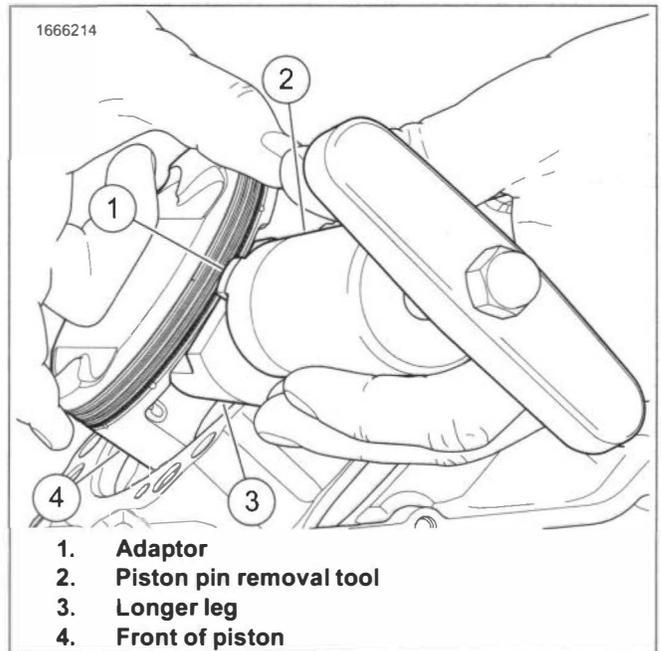

Figure 4-58. Piston Pin Removal Tool Assembled
- b. See Figure 4-58. Insert piston pin removal tool (2) through piston pin.
- c. Align longer leg (3) of adaptor (1) with front of piston (4).
- c. See Figure 4-58. Insert piston pin removal tool (2) through piston pin.
- d. Align longer leg (3) of adaptor (1) with front of piston (4).